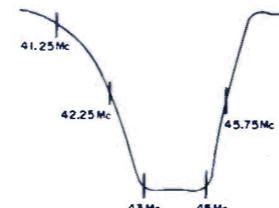

Figure 7 - I.F. Response Curve
8. Connect the IF sweep generator to point "D" as shown on Fig. . . . 14. The observed wave form should be as shown in Fig. 7 with markers as shown. A tilt in the response curve can be corrected by adjusting the bottom slug of the 3rd IF transformer, T302. To correct the bandwidth,